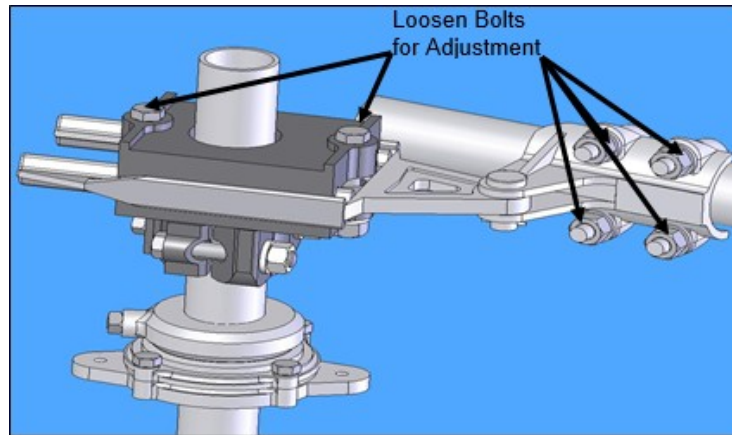

Figure 19: Adjustable Arm Assembly
- 6.4.3.5 Lengthen the adjustable radius arm approximately $\frac{1}{4}$ inch. Allow the pipe clevis to reposition itself the same $\frac{1}{4}$ inch. Refer to **Figure 19**.
- 6.4.4.5. Shorten the adjustable radius arm approximately $\frac{1}{4}$ -inch. Allow the pipe clevis to reposition itself the same $\frac{1}{4}$ inch. Refer to **Figure 19**.